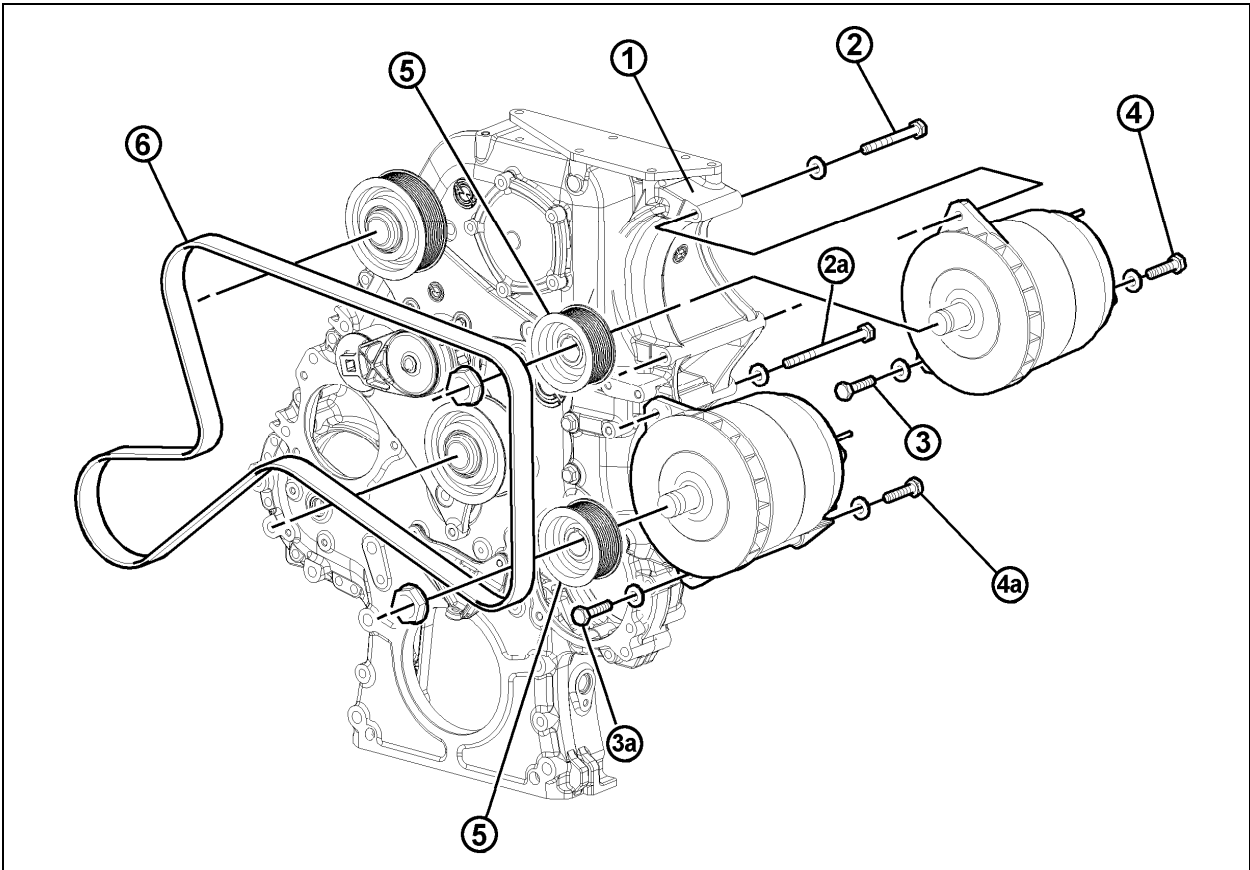
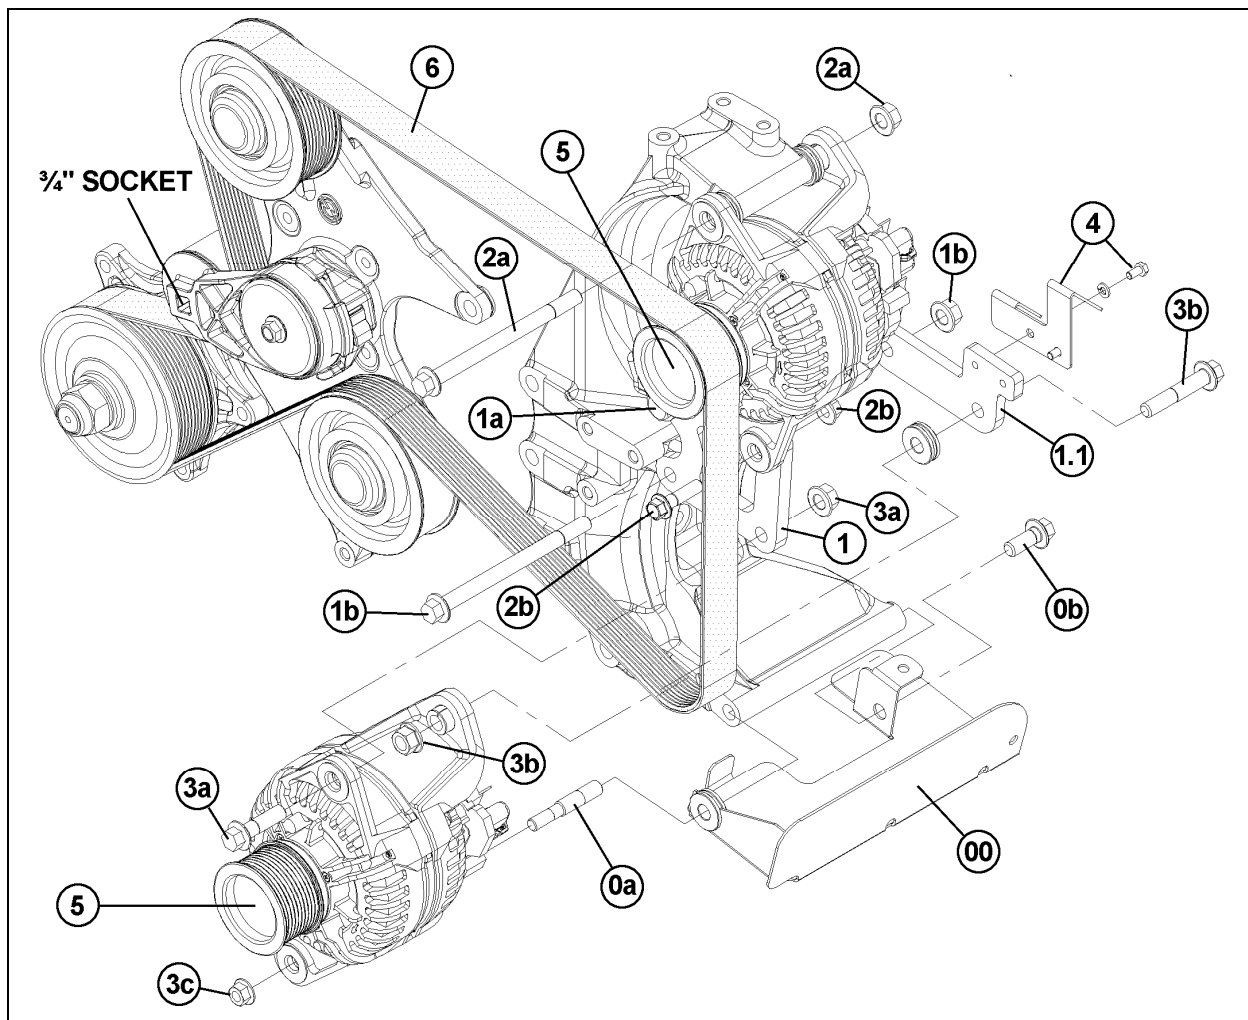

FIGURE 19: TWIN BOSCH ALTERNATORS INSTALLATION WITH DDC SERIES 60 ENGINE (VIP MOTORHOMES)
FIGURE 25: TWIN BOSCH HD10 ALTERNATORS INSTALLATION (H3 SERIES COACHES)
1. Install alternator mounting bracket (1, figure 19) to the gear case. Use the four flanged phosphor alloy bolts on the pulley end of the
2. Bolt the upper alternator to the bracket using the 4 inch bolt at the top (2, fig 19) and two inch bolts at the lower mounting bosses (3 and 4, figure 19). Bolt the other alternator using the 6 inch bolt at the top (2a, fig 19) and two inch bolts at the lower mounting bosses (3a and 4a, figure 19);
3. On the drive shafts of both alternators, install key, pulley, spring washer and nut (5, figure 19);
6. Install alternators belt (6, figure 19).
1. Insert a ¾ inch socket drive into the automatic belt tensioner opening (fig. 19).
1. If necessary, reinstall protector (00, figure 25) to the alternator support assembly. Use the stud (0a, figure 19) and bolt (0b, figure 25) to fix the protector. Use some Loctite 262 red (688910) onto the threads.
2. If removed, reinstall ring bracket (1, figure 19) and L-shaped bracket (1.1, figure 25). Fix the ring bracket using bolt (1a, figure 25) and also bolt and nut (1b, figure 19) for the ring bracket and L-shaped bracket. Use some Loctite 262 red (688910) onto the threads.
3. Mount the upper alternator using bolt and nut (2a, figure 25), and also bolt and nut (2b, figure 25).
4. Mount the lower alternator using bolt and nut (3a, figure 25), and also bolt and nut (3b, figure 25). Fix the lower portion of the alternator using nut (3c, figure 25).
5. Mount the cable bracket (4, figure 25) and fix using bolts (4, figure 25).
6. Mount pulleys (5, figure 25) onto alternators.
7. Install alternators belt (6, figure 25).
4. Insert a  $\frac{3}{4}$ " socket drive into the automatic belt tensioner opening (Fig. 25).